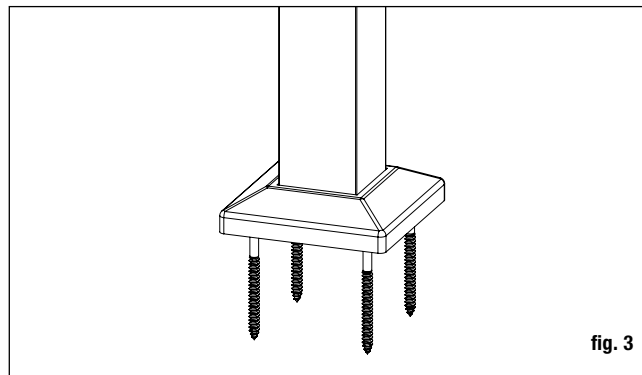

fig. 3
**STOP – Make sure post skirt is installed before continuing (fig. 3).**